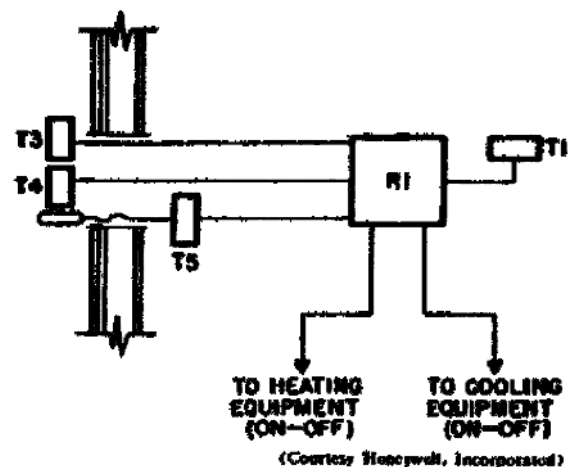

Figure 135. Two-position heating and cooling system.
**9. Summer-Water Compensation for a Two-Position Heating or Cooling System.** Controller T5 shown in figure 135 will select either the summer or winter compensation schedule. This selection depends upon the outdoor temperature.